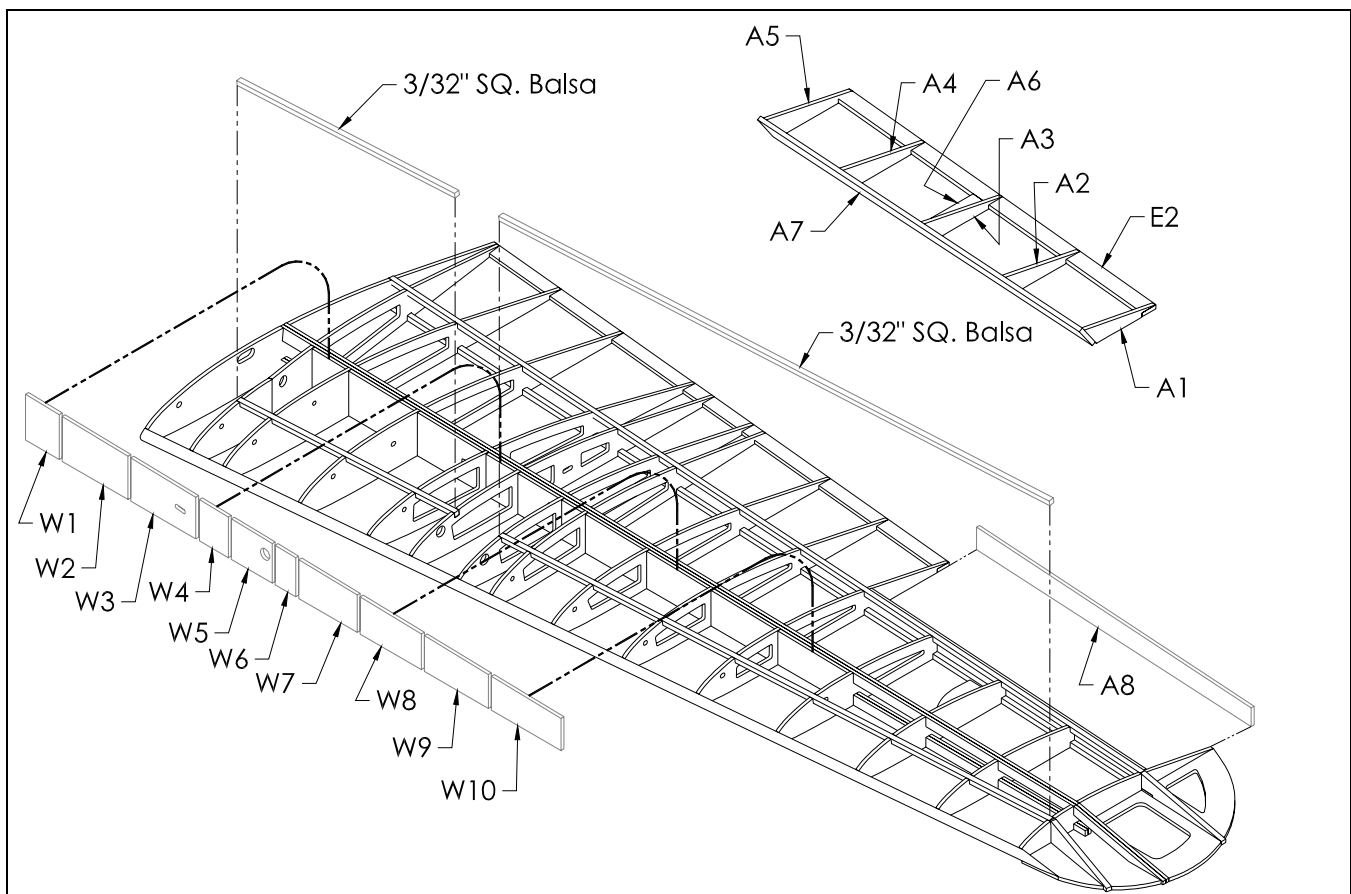

Figure 17
- Glue shear webs **W1** through **W10** to laminated Spars **S1**, **S2**, and adjacent ribs. Note that the grain of these shear webs is always perpendicular to the building surface. The orientation of each shear web can be seen in Figure 17.